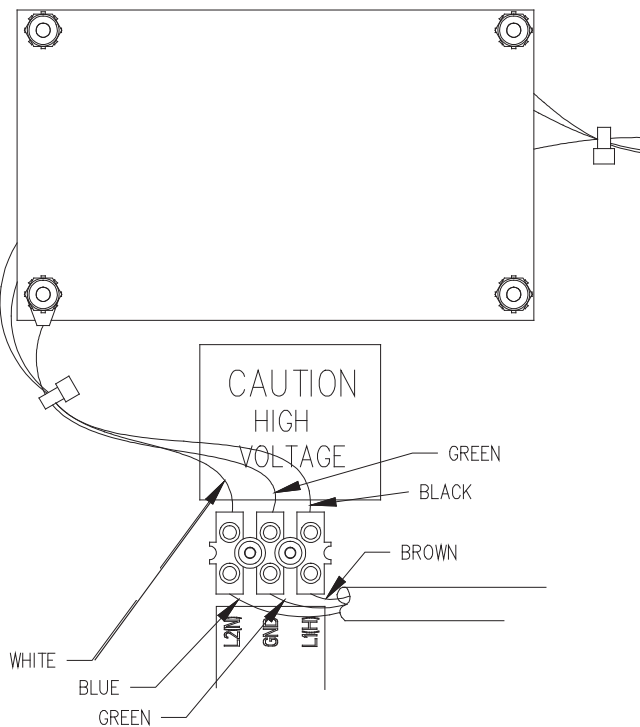

Figure No. 4
3. To connect each wire to the AC power terminal block, first, loosen each of the three screw terminals then insert each wire into the proper terminal and securely tighten the screws. Refer to the wiring color code table below, Figure No. 4, and the labels in the display enclosure for the correct terminal connections.